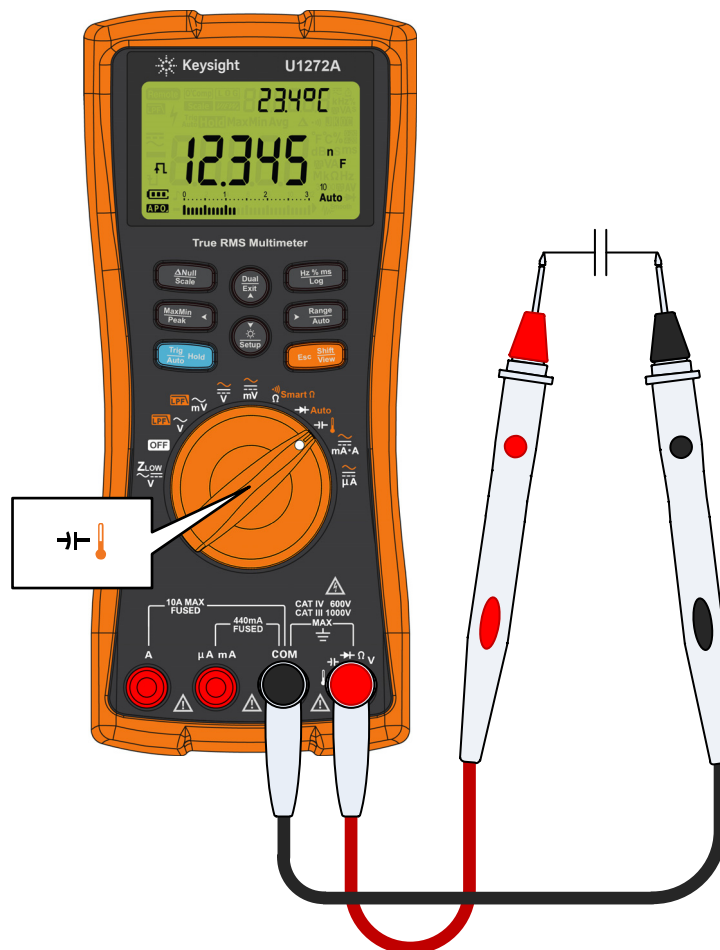

Figure 2-26 Measuring capacitance
- 1 To measure capacitance, position the rotary switch to F and set up your multimeter as shown in Figure 2-26.